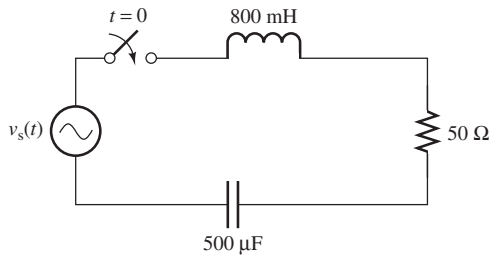

FIGURE P5.54 Circuit for Problem 5.54.
- 5.54** (H) The switch closes at $t = 0$ s. Find the expression of $v_C(t)$ for Figure P5.54, if the voltage source is $V_S(t) = 20\sin(50t)$.